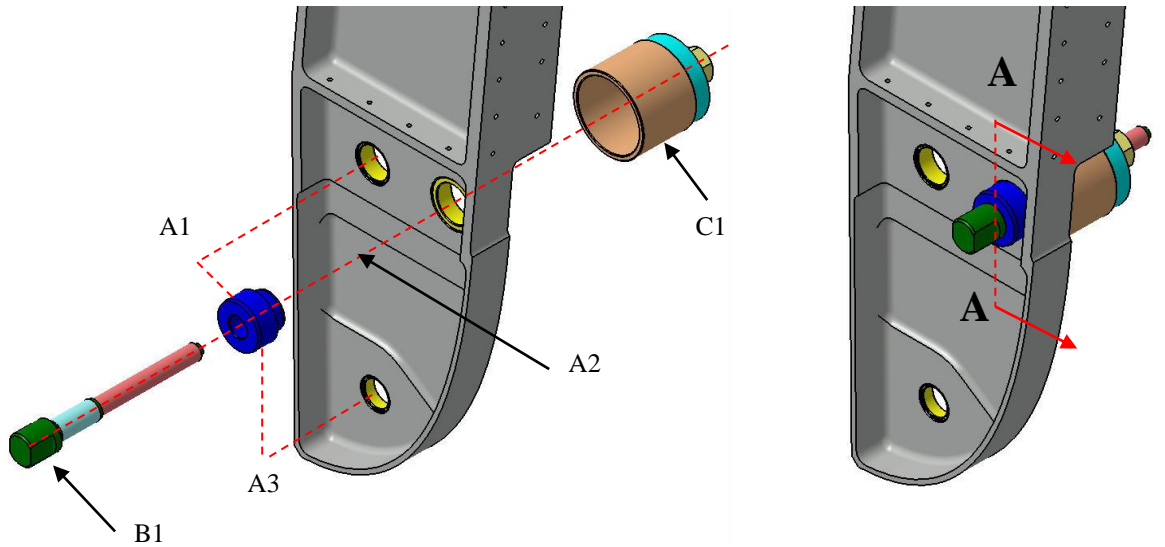

Figure 6: BUSHING REMOVAL
- For hole H1 take PEC-139-019-02-33 (A1) PULLER, for hole H2 take PEC-139-019-02-34 (A2) and for hole H3 take PEC-139-019-02-35 (A3) (Fig. 6)
- Insert the PULLER inside the bush to be removed and insert the GUIDE inside the PULLER (Fig. 6 and 7).
- Align and screw the REACTION ASSY PEC-139-019-01-06 (C1) with the guide and remove the bush (Fig.6 and 7).